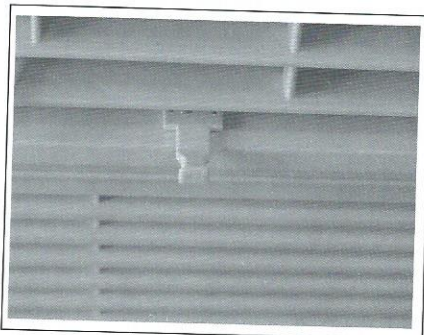

Figure 2 (VENT OPEN)
2. Draw fresh air into the room- Vent Open (see Fig.2)